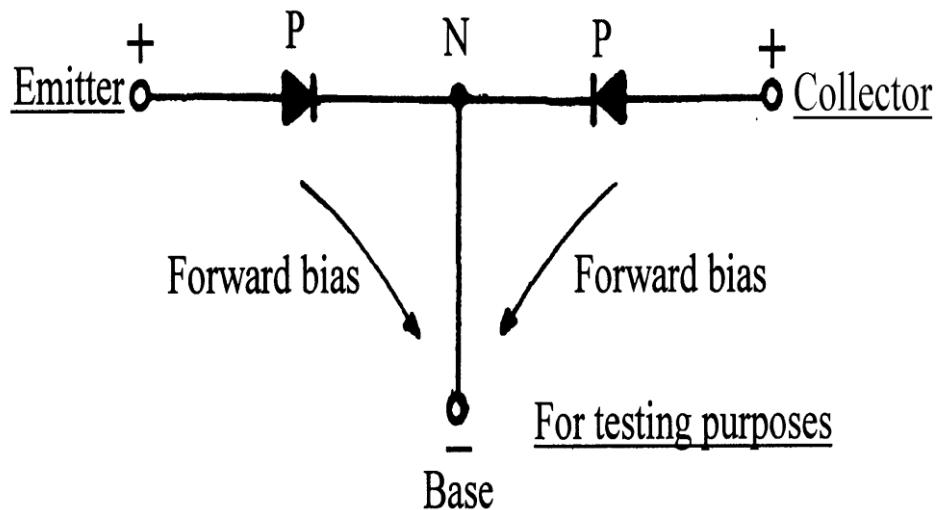

Figure 3
- Carry out the same test on a PNP transistor by using the flow chart and a multimeter. Fig. 3 shows the analogy for a PNP transistor for testing purposes.